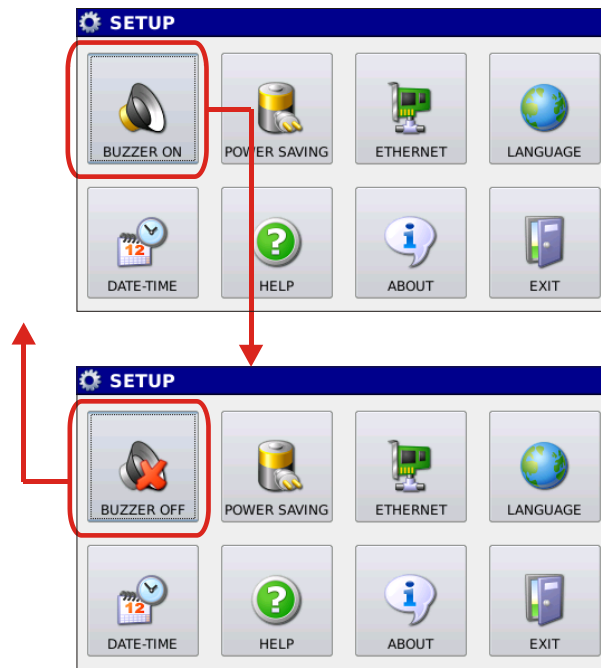

Fig. 6.2: Activating/deactivating acoustic signals through Buzzer key.
- 6.1  **Activating acoustic signals.** When the program starts, the Buzzer is active and each press of a button is indicated by a sound; in order to disable this function, it is necessary to press the BUZZER key, so to change its status (Figure 6.2).